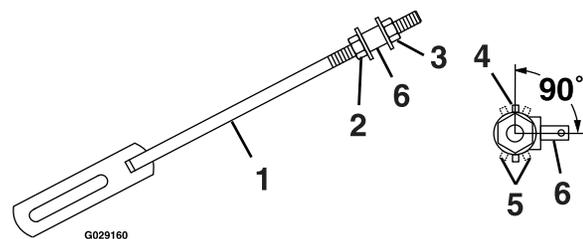

Figure 16
- Loosen the front nut on left hydro control linkage as shown in Figure 16. Turn the rear control linkage adjusting nut counterclockwise until wheel rotates forward. Turn the rear nut of left control linkage clockwise 1/4 of a turn at a time, stopping to move the speed control forward and back to neutral, until left wheel stops rotating forward.
Turn the rear nut an additional 1/2 turn and tighten the front nut making sure not to put a bind on the linkage. Make sure flat part of linkage is perpendicular to pin part of swivel (see Figure 16).